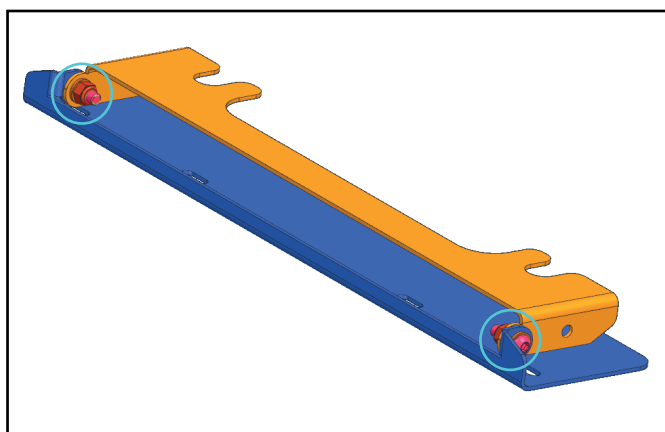

Fig. 54
53. Unscrew the hardware and disassemble license plate bracket (item 16) as shown in fig.54,55.
58. Connect terminal “-“ on the battery (fig.54).